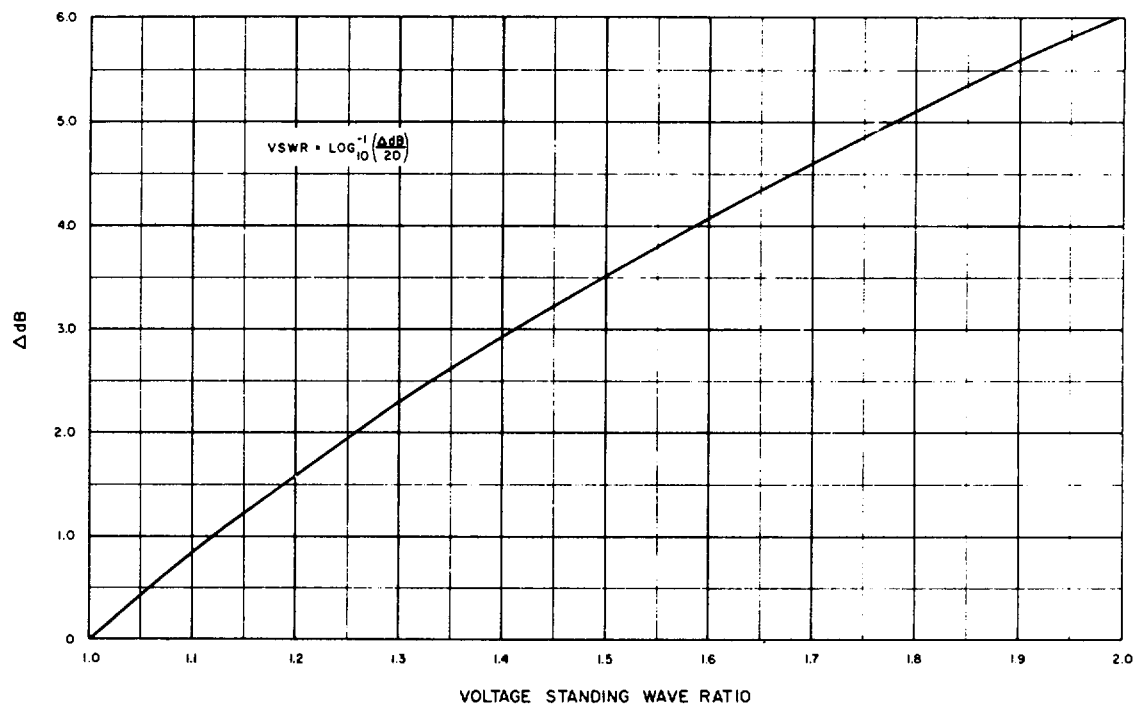

Figure 7. dB-VSWR Conversion Chart
5. Slide the carriage along the line to locate a point of minimum reading. Note the meter reading (dBm) at this point, then subtract this minimum reading from the maximum reading. Convert the resultant AdB into vswr either by the use of the vswr Conversion Curve (Figure 7) or by computation.